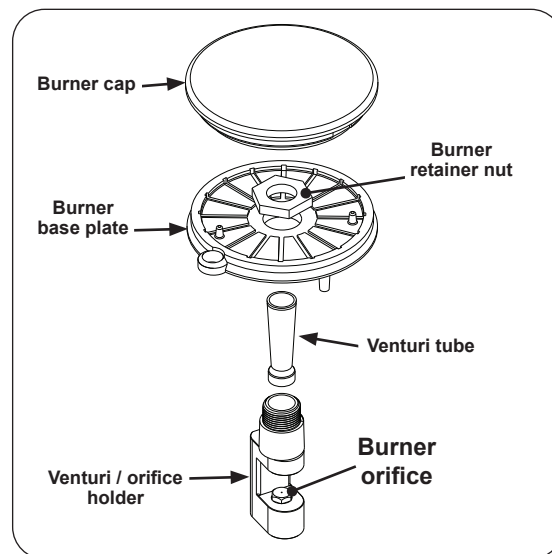

Fig. 30-1 Burner details
2. Remove the burner cap and the venturi tube (see Fig. 30-1).